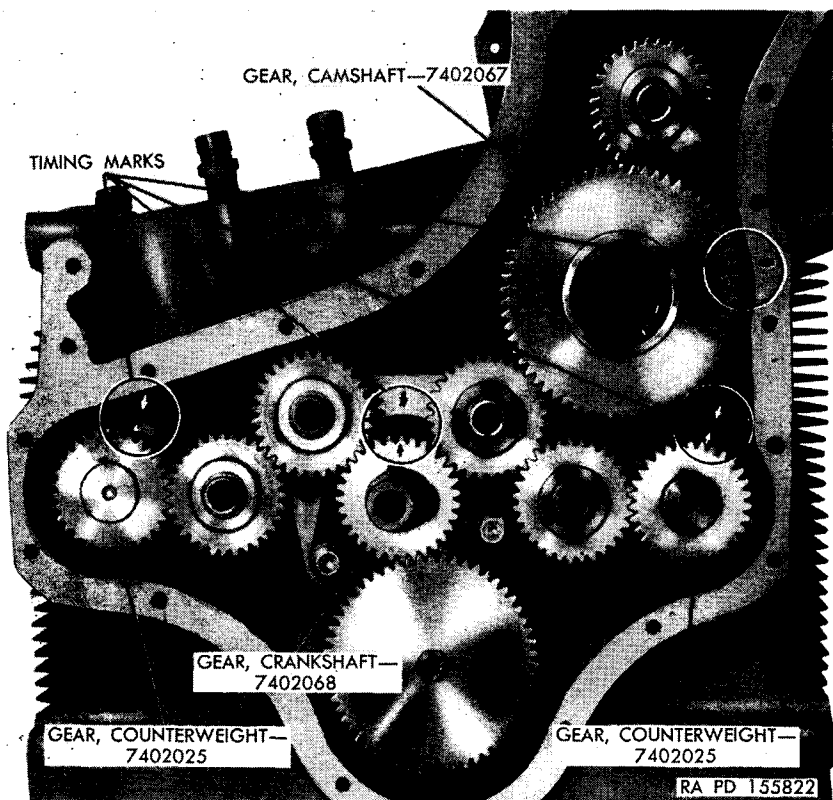

Figure 102. Engine timing diagram.
a. Time engine by matching timing marks at crankshaft gear, both counterweight gears, and camshaft gear with marks on crankcase (fig. 102).
b. Apply engine oil to bearing surfaces and install five idler gears in same positions from which they were removed (fig. 102). Make sure wide shoulder of idler gears is toward crankcase.